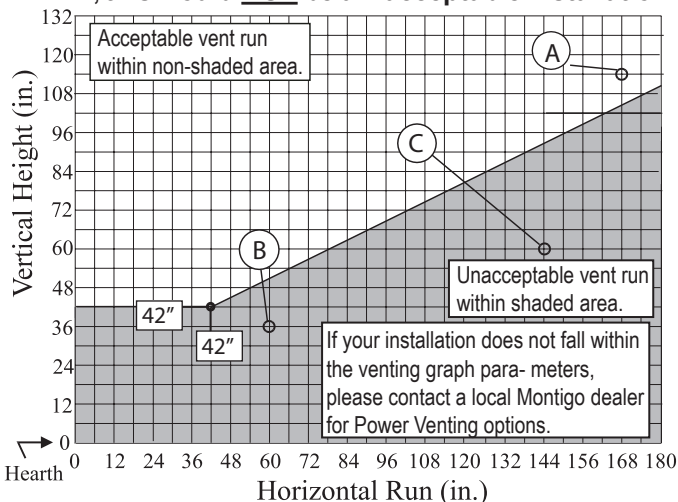

Figure 12. H*38DF* (excluding H38DFN) Top Vent Venting Graph for wall mounted terminations.
- Once the proposed venting layout has been determined refer to Figure 12, 12a, or 15 to ensure the layout is acceptable.
- Venting runs *must* fall within the limits set by the venting graph, see Figure 12 or 12a.
Measure the vertical height from the fireplace hearth to the centre of the termination and the horizontal run from the fireplace flue collar to the wall flange of the termination. Plot on the Venting Graph Figure 12 with an 'X'.
Figure 12a. Top Vented, wall mounted installation with one 90° bend. The vent run must comply with Venting Graph for Top vent, wall mounted terminations, Figure 12 or .